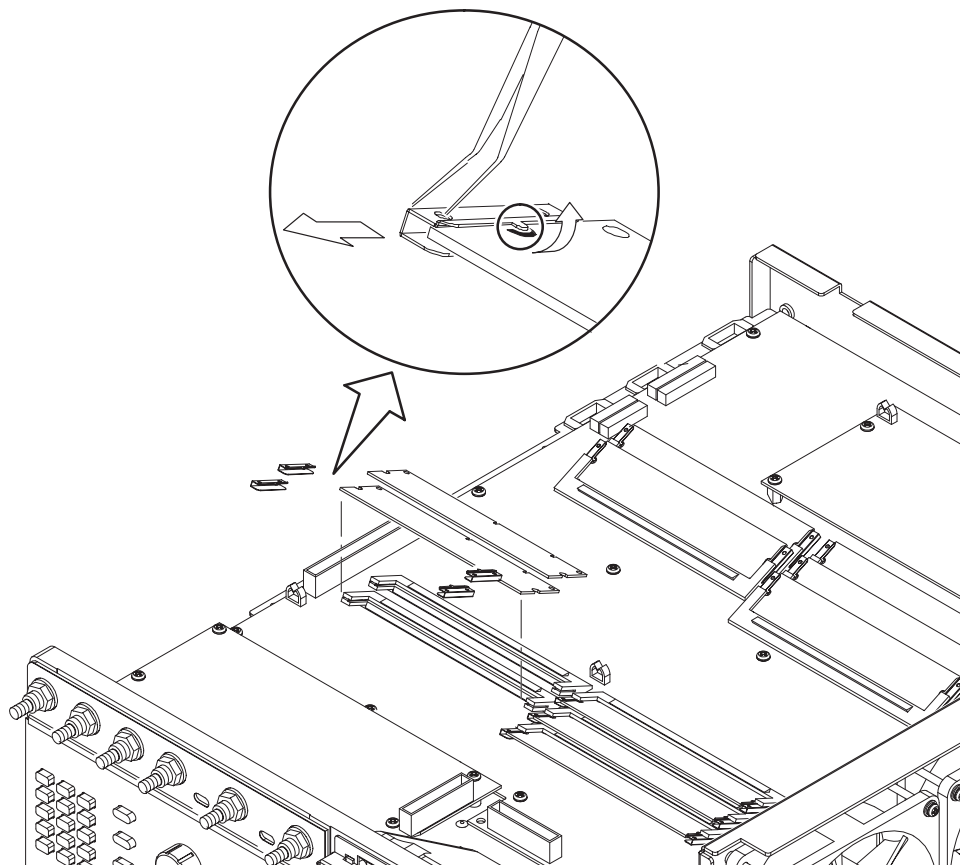

Figure 6–24: A60 Memory board removal
1. Locate the modules to be removed (see Figure 6–5 on page 6–15).
3. Remove the *A80 Digital out Board* using Figure 6–23 on page 6–45 as a guide.
3. To remove the *A60 Memory board*,. release the retainer latches securing the memory boards to the *A52 AWG Board*. See Figure 6–24. Using the tweezers, pinch the tab of the retainer out of the hole of the memory board. Then, insert the tip of the tweezers into the hole of the retainer to slide it out, and lift out the memory board.
4. Remove *A70/A72 Output Board* using Figure 6–23 on page 6–45 as a guide.
4. Remove the *A52 AWG Board*, using Figure 6–23 on page 6–45 as a guide.
5. Remove the *A50 Sequence Board* using Figure 6–23 on page 6–45 as a guide.
- Figure 6–25: Primary Troubleshooting Procedure
- Figure 6–26: Troubleshooting Procedure 1 — Power Supply Module
- Figure 6–28: Troubleshooting Procedure 2 — CPU or Front-panel Module
- Figure 6–29: Troubleshooting Procedure 3 — LCD and backlight
- Figure 6–31: Troubleshooting Procedure 4 — Module Isolation